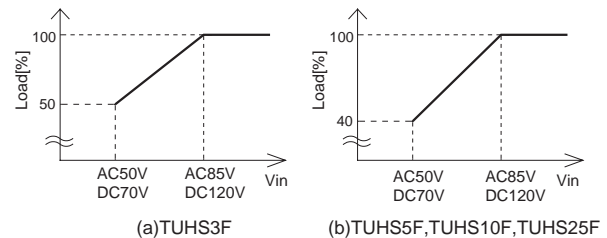

Fig.4.1 Input voltage derating
- In case of less than AC85V or DC120V, it is possible to operate continuously by input voltage derating as shown Fig.4.1.